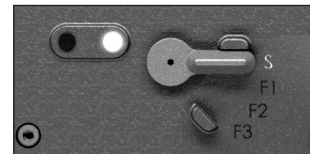

Fig 1.4
The TM-15 comes equipped with a four-position selector switch which comes factory set in the recreational firing mode setting. Move the selector from position (S) safety, to positions (F1, F2, and F3) to change into a firing mode (Fig 1.4).